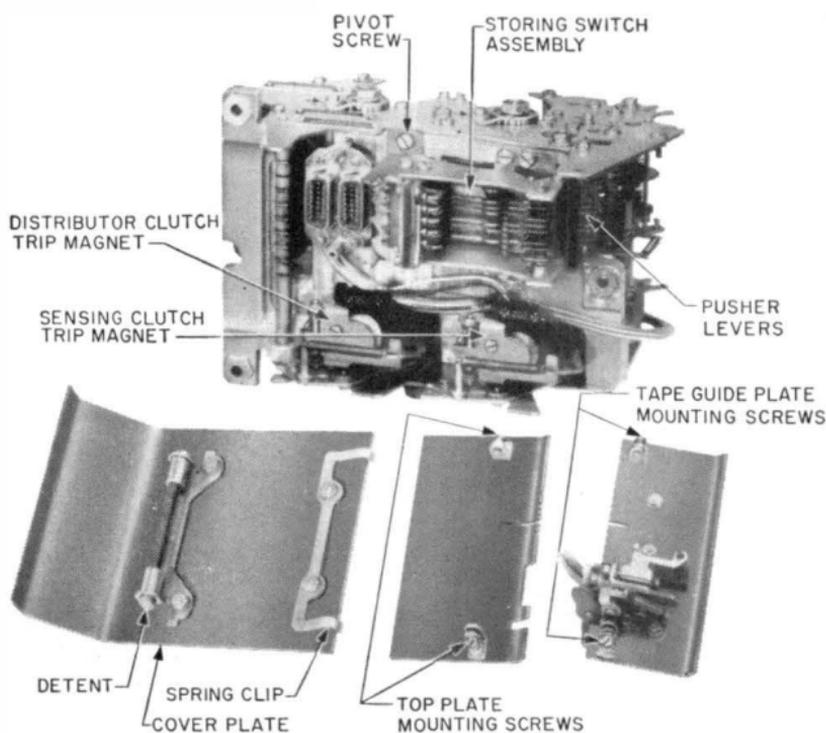

Fig. 1—Sensing and Transmitting Mechanism—Bottom View
- (1) To replace the front panel, mate the slide on the frame and push toward the rear.
- 2.02 **Cover Plate:** To remove the cover plate, lift the left end upward and slide the plate toward the left to disengage the spring clip. (See Fig. 1.)
(See Fig. 1.)
(1) To replace the top plate, guide the mounting screws into the notches of the front and rear plates. Align the sensing pins and feed wheel with their respective slots. If the plates do not align, refer to the adjusting procedures found in the section covering requirements and adjustments of the 28F, 28G-type, 28LA, and 28LB transmitter-distributor units.
2.04 **Tape-guide Plate:** To remove the tape-guide plate, loosen the front and rear mounting screws and slide the plate upward. (See Fig. 1.)